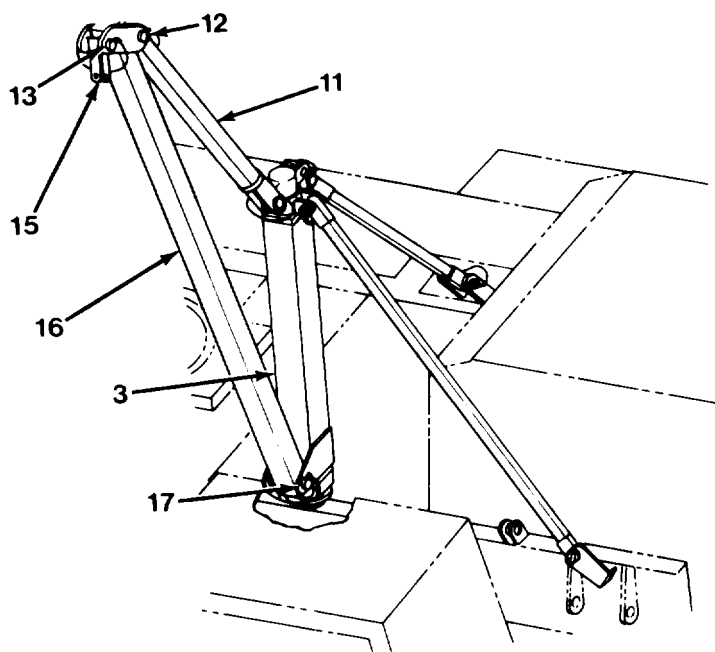

Figure 5-12. *Assembling the Mast*
- c. Remove lift arm (16) and pins (17) and (18) from storage brackets. Place pin (18) in tool box for future use.
- d. With sheave bracket (15) down, connect lift arm (16) to base of mast (3) with pin (17, Figure 5-12).
- e. Using two pins (12), attach adjustable truss rod (11) to top of mast (3) and top of lift arm (16). The mast and arm assembly is now complete.